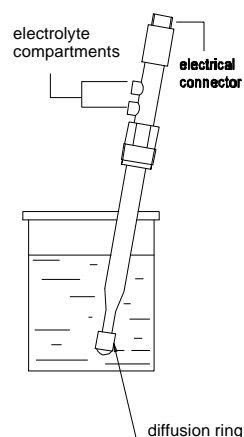

Figure 1
- If the diffusion ring is clogged (electrolyte crystals), plunge and rinse the electrode in a water with low sodium content. (See Figure 1).